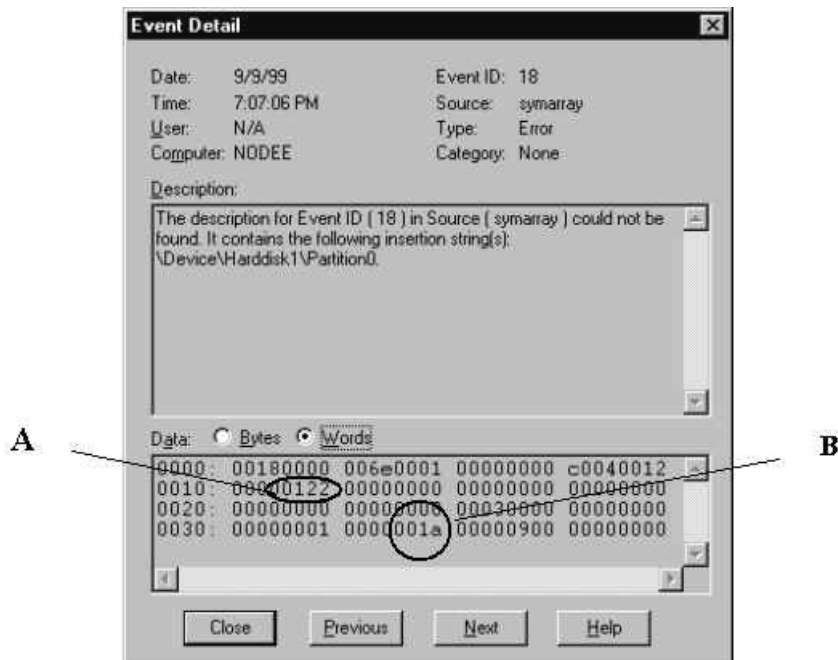

Figure 22. Event detail
2. Select the **Words** radio button to convert the bottom text from bytes to words. See Figure 22.